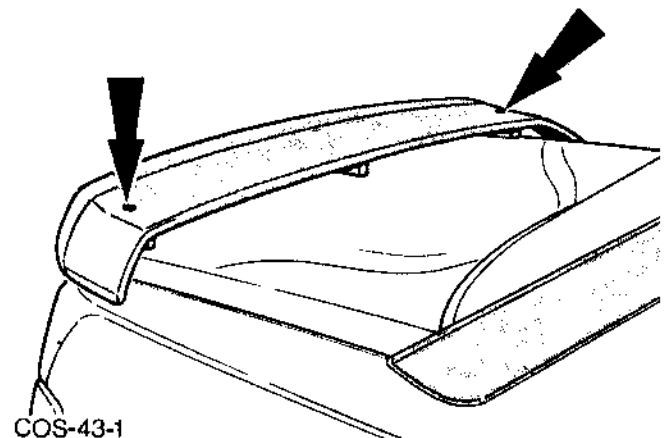

Fig.2. Spoiler retaining screws.
4. Align spoiler and refit outer screws and caps, Fig.2.